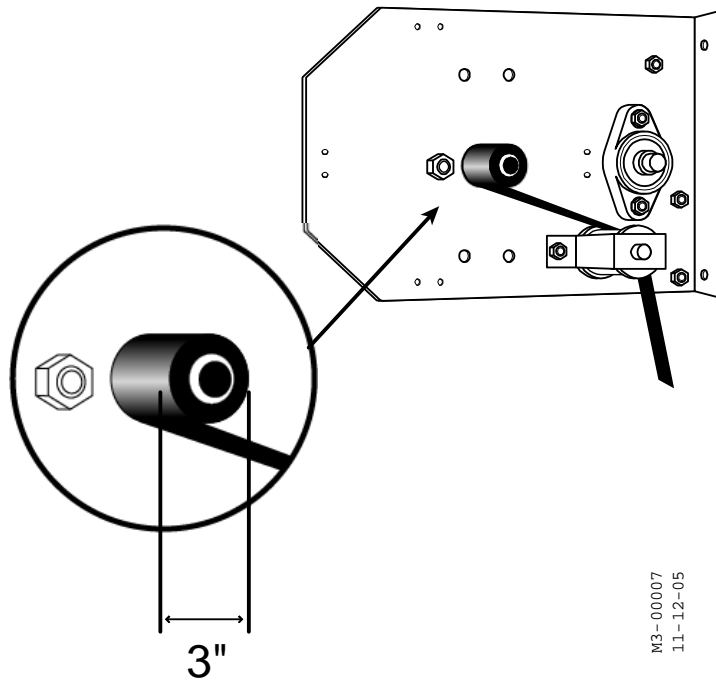

Figure 2-20: Wind Belt on Shaft
3. Unroll the belt until 3" remain on the shaft. See Figure 2-20.